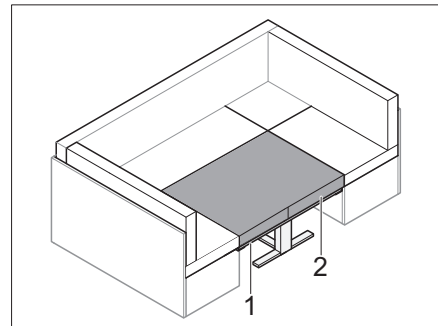

Fig. 70 Inserted additional cushion
- Insert the supplied additional cushion (Fig. 70,2).